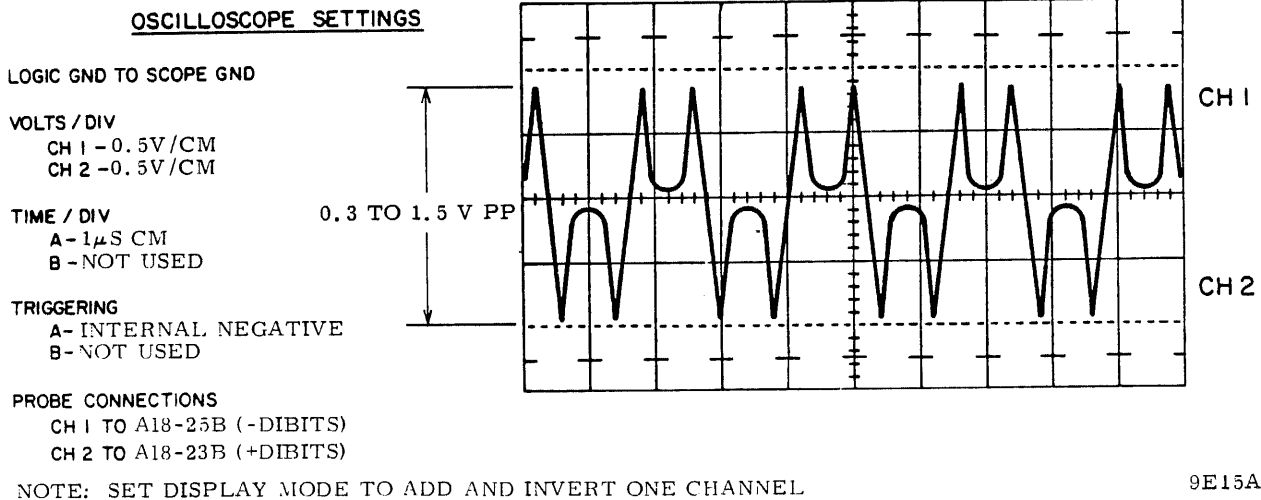

Figure 5-8. Track Servo Amplitude Waveform
2. Connect and setup oscilloscope as indicated on figure 5-8.
4. Command direct seek to cylinder 822 (410) and observe peak to peak amplitude of waveform.